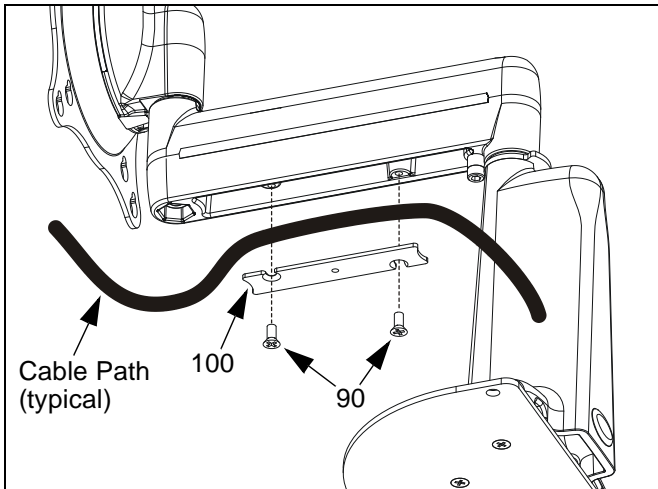

Figure 5: Cable Management
2. Attach cables to mount arm (See Figure 5):
- Using Phillips screwdriver, install cover (100) with two screws (90).